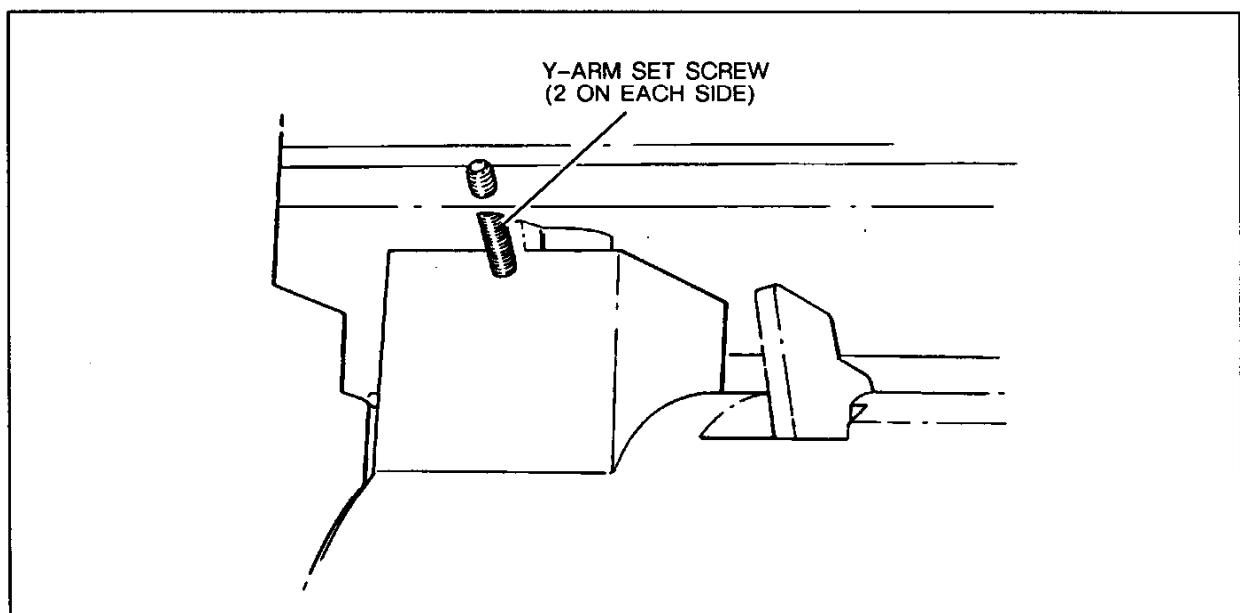

Figure 7-3. Y-Arm Adjustment
- a. Turn the plotter line switch to OFF (O) and disconnect the ac power cord.
b. With the Y-arm loosely mounted, adjust the front and rear set screws on each end of the Y-arm so that the pen carriage crutch rides along the middle of the groove in the center platen. See Figure 7-3.